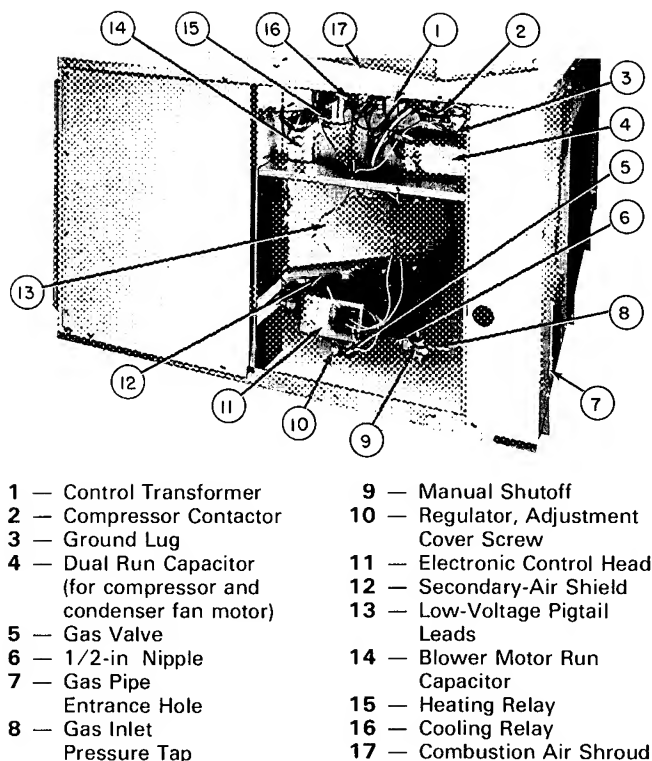

**Fig. 5 — Vent Cap Assembly**
**NOTE:** Screw holes in flue assembly and unit top are positioned to ensure proper orientation when installed. Refer to Fig. 5 and install vent cap as follows: